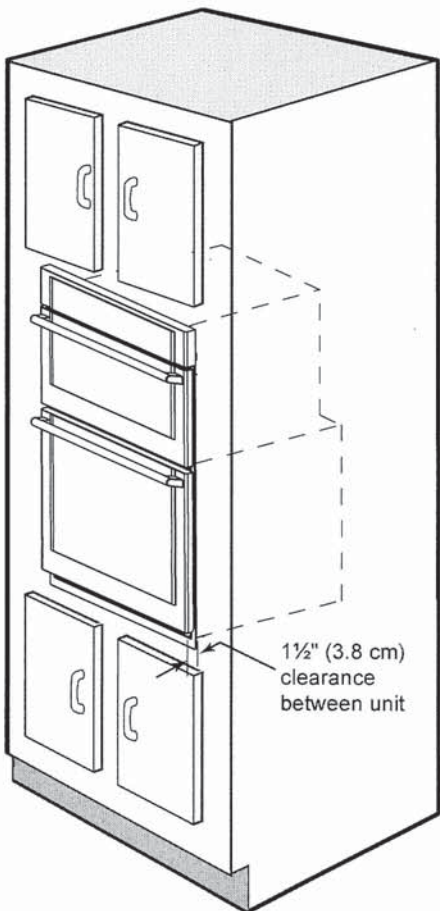

Figure 6: Cabinet Installation
3. Insert the oven into the cabinet opening. Slide oven inward leaving 1½" (3.8 cm) clearance between the oven and front of cabinet (see Figure 6).